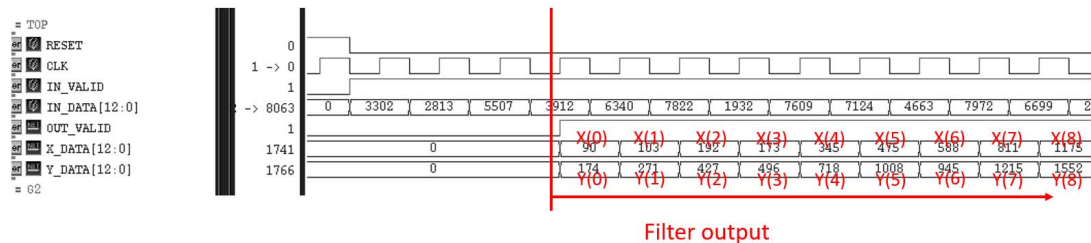

Figure 4: Output timing diagram
7. When the circuit is ready to start outputting the filtered outputs, the OUT_VALID signal should be pulled high until all filter output signals are output. Then the OUT_VALID signal should be pulled low again. The high-pass filter (HPF) and low-pass filter (LPF) output signals are X_DATA and Y_DATA, respectively. The detailed output timing diagram is shown in Figure 4.